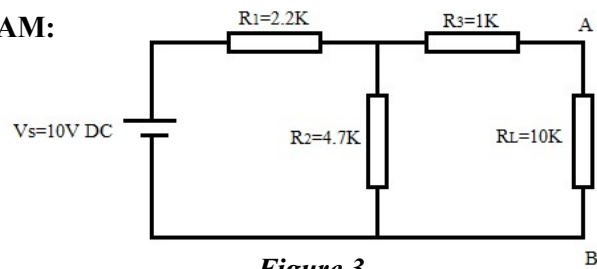

Figure 3
2. Make the circuit on the breadboard as per the circuit diagram in Figure 3